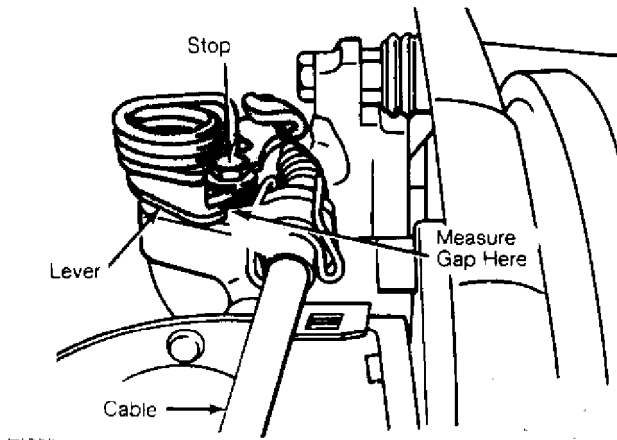

Fig. 2: Adjusting Rear Disc Parking Brake
1) Raise and support vehicle. Disengage parking brake. Loosen locking nuts at parking brake lever. Tighten adjusting nuts until levers on calipers just move off stops. Measure gap between stop and lever. See Fig. 2.